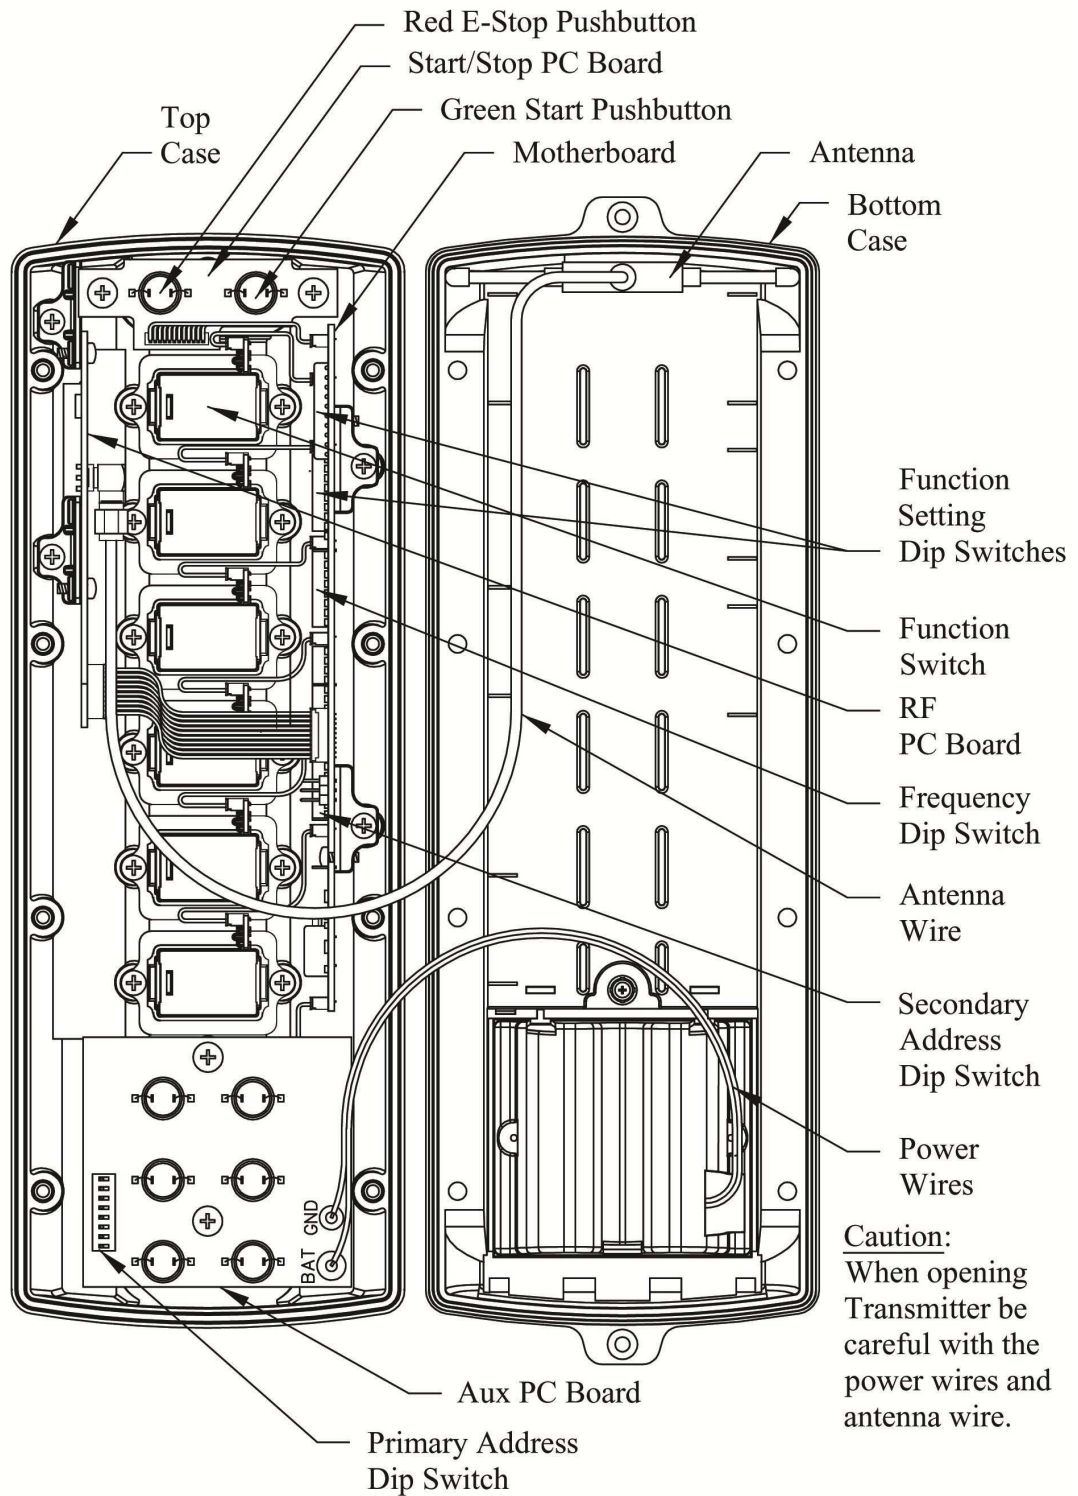

Fig 5-2(T): Transmitter Internal Components
Access to the Address Code, Frequency and Function Settings Dip Switches of the transmitter is made by removing the eight Phillips head screws retaining the back case and removing the back. Figure 5-2(T) shows internal arrangement of parts. Separate the Bottom Case from the Top Case carefully; the battery wires and antenna wire connect the two halves.